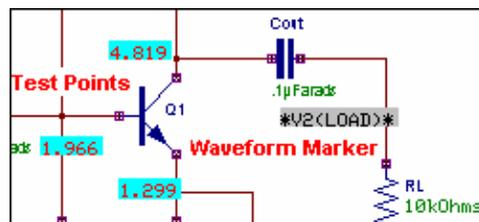

Fig 6.3
**Test points/**  **Set Waveform Contents** (if graphical output is required). After selecting the suitable test points, click on the connection/ pin to assign the test point. Move the small outline rectangle to the desired position to place the test points (Refer Fig.6.3).